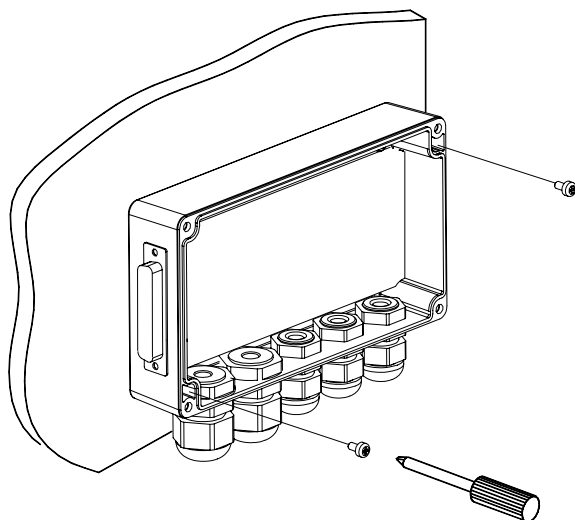

Figure 4 - Mounting C-BOX 150
C-BOX 150 can be installed to operate in different positions. The two screw holes inside the housing of the C-BOX 150 are for mechanical fixture (Figure 4).
- 2) Align the C-BOX 150 and insert two screws and screw them into the panel until tight (see Figure 4).